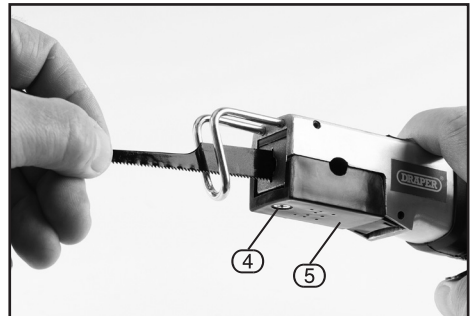

FIG.3
9.2 REPLACEMENT OF SAW BLADE - FIG. 3
- Loosen the chuck cover release screw (4) with a screwdriver (not supplied) allowing you to open the chuck cover (5).